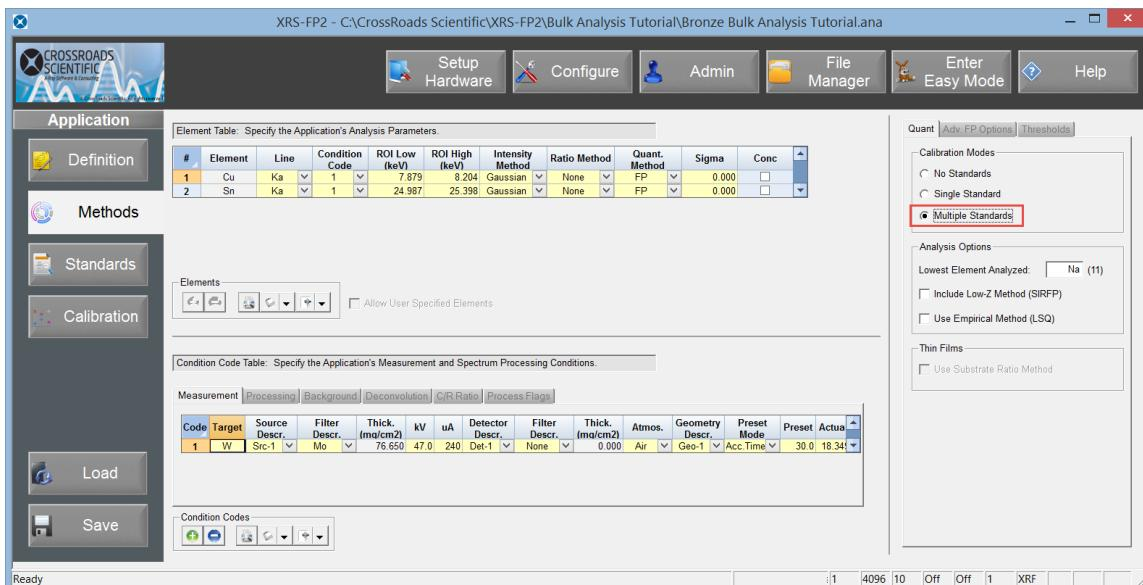

Figure 26. XRS-FP2 Application Workflow – Multiple Standards Calibration Mode. The quant method is set to multiple standards.
- Then click on the **Methods** button in the Application workflow. Now change the application quant method (calibration mode), in the R-hand panel under the “Quant” tab, to “**Multiple Standards**” (Fig. 26 below).